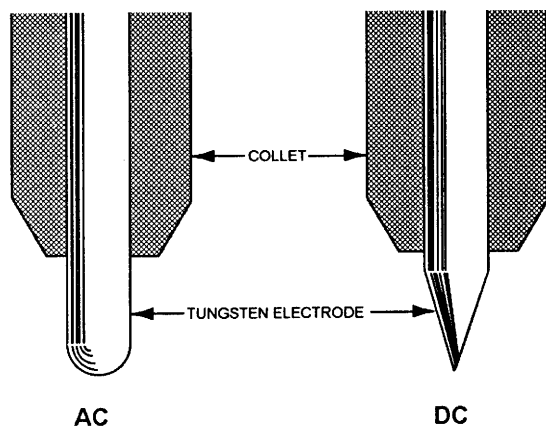
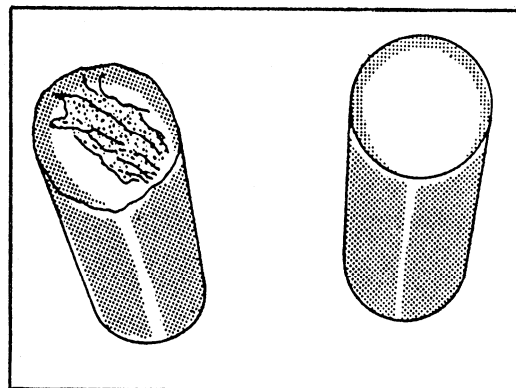

Figure 8-9.—Tungsten electrode shapes for ac and dc welding.
Figure 8-12.—Contaminated and good tungsten electrode.
To produce good quality welds with the GTA process, you must shape the electrode properly. The general practice is to use a pointed electrode with dc welding and a spherical end with ac welding (fig. 8-9).
- Check the size, appearance, and position of the tungsten electrode in the torch. Ensure that the electrode diameter and nozzle size meet the manufacturer's recommendations. The tip should be properly shaped as discussed earlier (refer to figure 8-9). The electrode should extend beyond the end of the gas cup a distance ranging from 1/8 to 3/16 of an inch for butt welding and 1/4 to 3/8 of an inch for fillet welding. Check the electrode for positioning and good electrical contact. The electrode should be clean and silvery. A dirty tungsten electrode can usually be cleaned satisfactorily with a fine emery cloth. If severely contaminated, the electrode should be replaced or the tip broken off and dressed on a grinding wheel. A contaminated tungsten electrode and a good tungsten electrode are shown in figure 8-12.